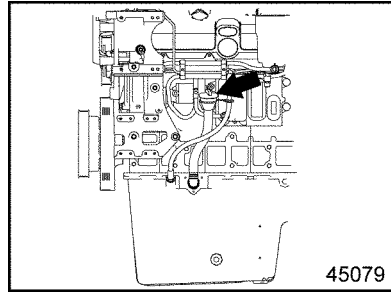

Figure 35 Oil Fill Tube
11. Add new engine oil through the oil fill tube (See Figure 35) until the maximum fill level on the oil dipstick has been reached. Listed in Table 11 are the engine fill capacities.